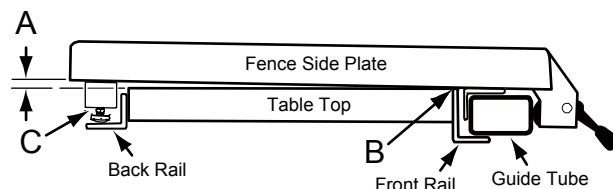

Figure 16
5. View the fence from the left side of the saw (Figure 16). Look for the space *between the table and the fence bottom* to be equal along the entire length of the fence (A, B, Fig. 16).
7. Using a 10mm wrench, loosen the *lock nut* that secures the foot adjustment (C, Fig. 16)
8. Rotate the *foot*, retracting it such that it does not come in contact with the *back rail* (Fig. 16).
When the space at points A and B (Fig. 16) are the same:
10. Extend the *foot* (C, Fig. 16) by rotating it until it just comes in contact with the *back rail*.